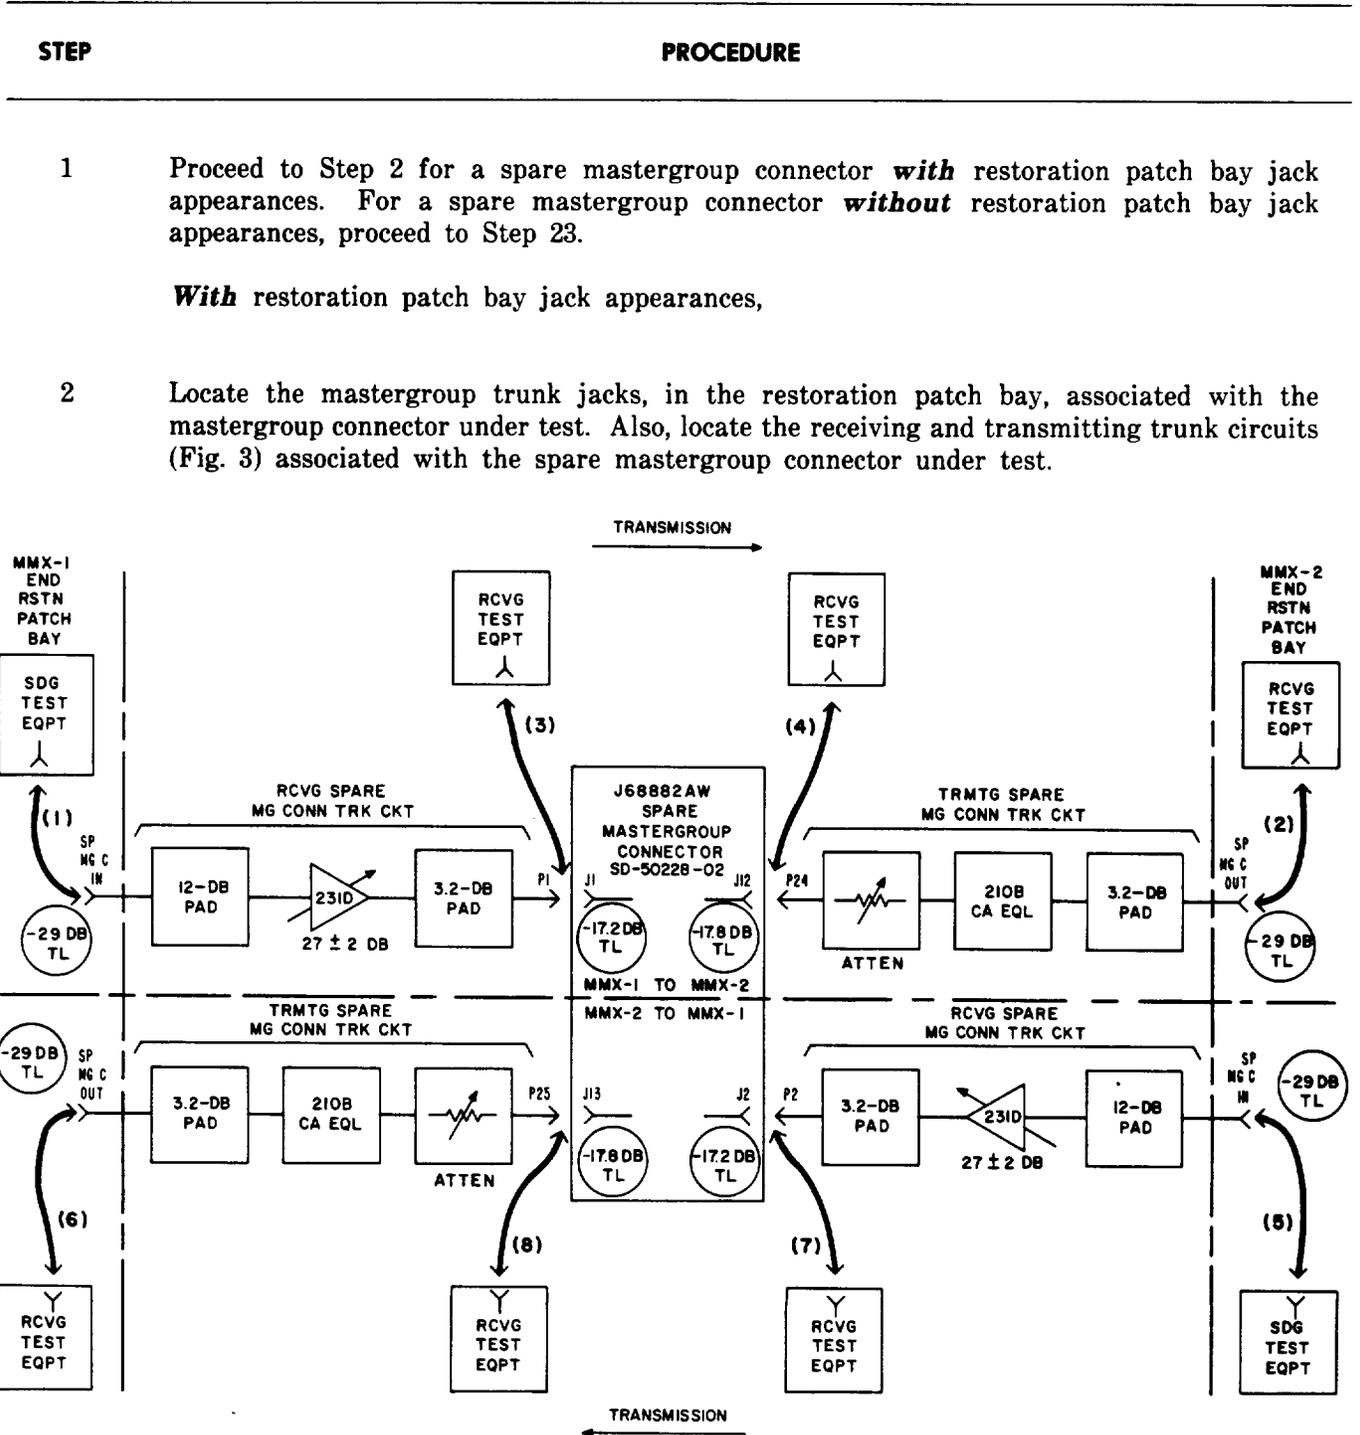

Fig. 3—Spare Mastergroup Connector Test Connections
A **spare** mastergroup connector can be patched in service in place of a corresponding regular mastergroup connector. A spare mastergroup connector may be used for restoration service when connected to restoration patch bays, as shown in Fig. 3. Spare mastergroup connector J68882AW can serve both directions of transmission provided by a regular mastergroup connector J68882AW. The MMX-2 to MMX-1 direction of transmission through a spare mastergroup connector J68882AW can serve for either direction of transmission through a regular mastergroup connector J68882AP (MMX-2 to MMX-2).
3	Apply a 1.8-MHz test signal at -29 dBm to the SP MG C IN jack [patch 1 (5), Fig. 3].
4	Measure the 1.8-MHz power at the SP MG C OUT jack [patch 2 (6), Fig. 3].
6	Measure the 1.8-MHz power at plug P1 (P2) [patch 3 (7), Fig. 3].
10	Measure the 1.8-MHz power at jack J12 (J13) on the rear of the mastergroup connector [patch 4 (8), Fig. 3].
16	Measure the 1.8-MHz power at the SP MG C OUT jack [patch 2 (6), (Fig. 3)]. Requirement: -29.0 dBm \pm 0.1 dB
19	At MMX receiving bay, Apply a 0.6-MHz test signal at -29 dBm to the SP MG C IN jack [patch 1 (5), (Fig. 3)]. At MMX transmitting bay,
20	Measure and record the 0.6-MHz power at the SP MG C OUT jack [patch 2 (6), Fig. 3].
33	Apply a 3.0-MHz test signal at -29 dBm to the SP MG C IN jack [patch 1 (5), Fig. 3].
39	Apply a 3.0-MHz test signal at -29 dBm to the SP MG C IN jack [patch 1 (5), Fig. 3].
40	Measure and record the 3.0-MHz power at the SP MG C OUT jack [patch 2 (6), Fig. 3].